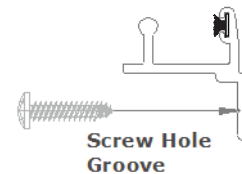
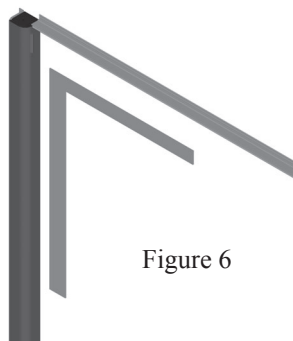
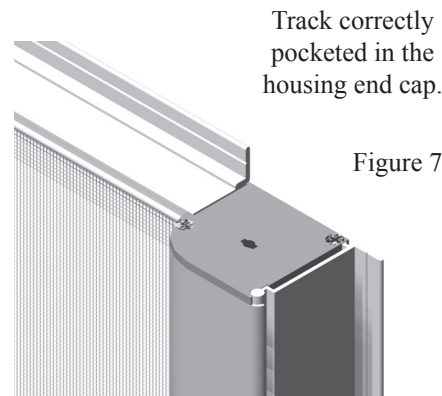

Figure 4
Figure 6
Figure 7
Drill three (3) 3/16" holes in each track, one approximately 2" from each end, one approximately in the middle. Locate the holes using the groove in the track flange (Figure 4). Insert the head track into the drawbar wheel housing, and slide it into the pocket in the housing end cap. Carefully align the track with the housing, using a framing square (Figure 6) to insure accuracy. Make sure the track is fully seated in the housing end cap pocket (Figure 7) and attach the track to the opening using the #8 x 1" pan head screws provided.